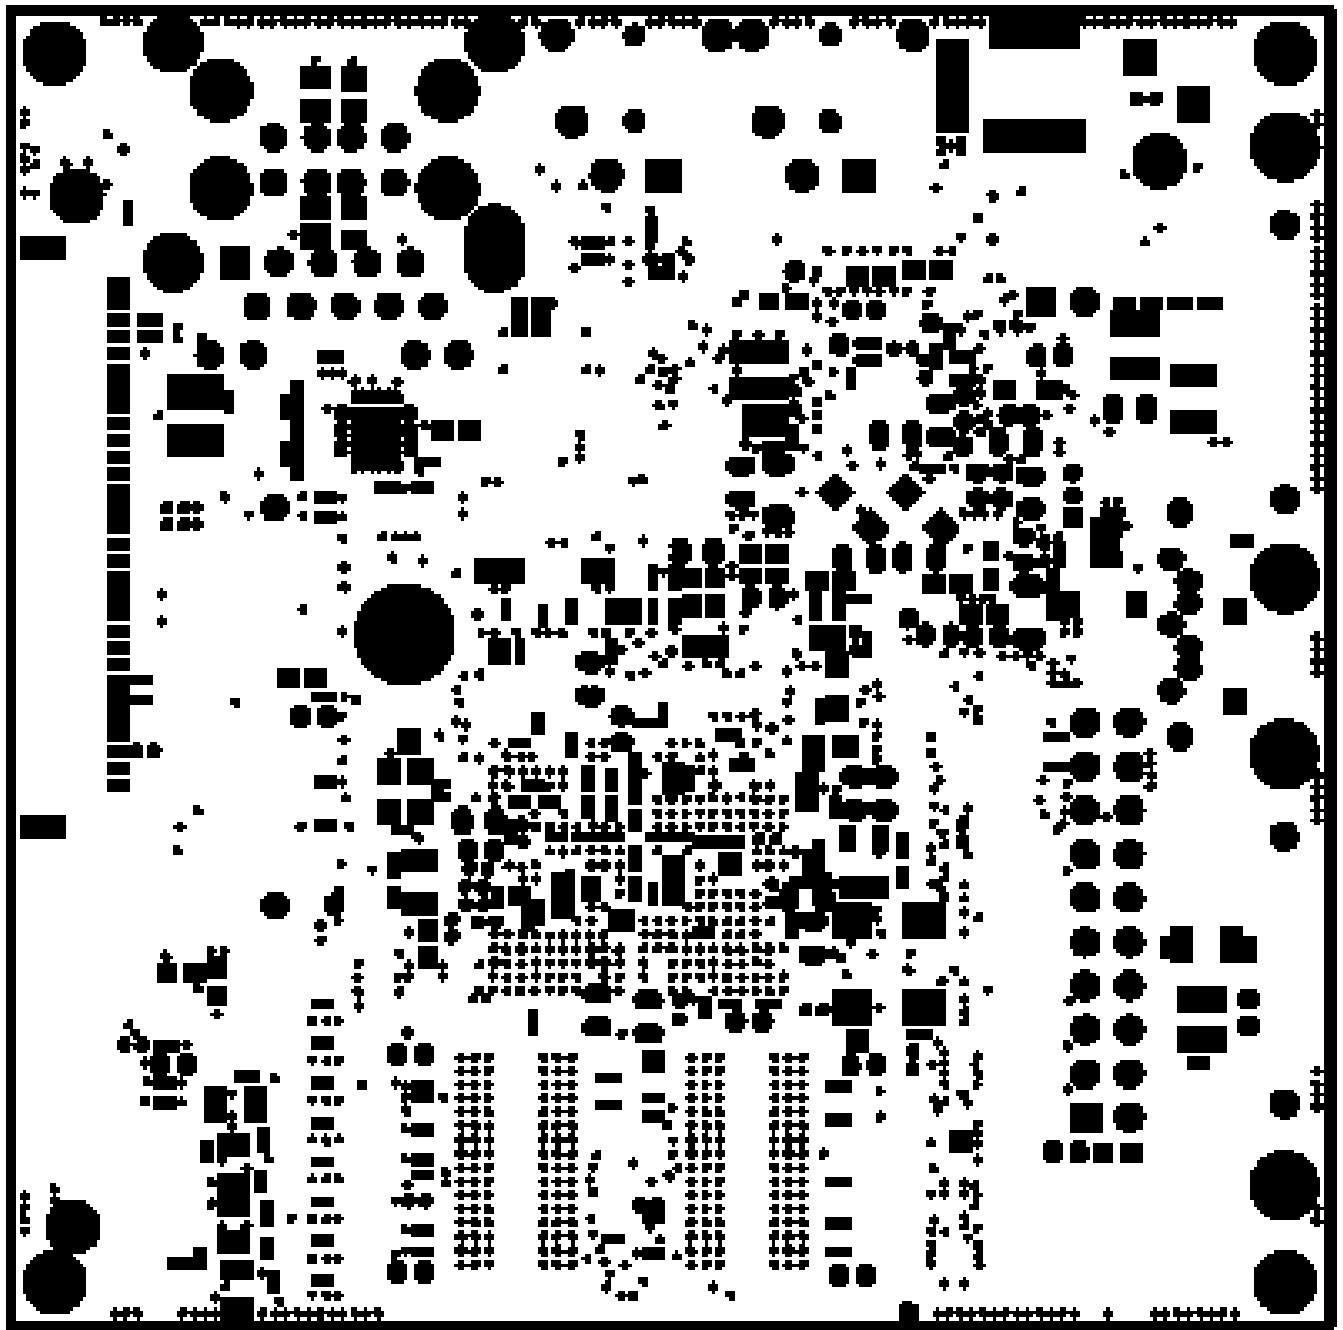

Figure 66. Soldermask Bottom
- Figure 66. Soldermask Bottom